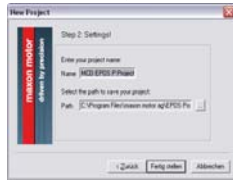

Figure 3-3 Jumpers JP2 and JP3 (maxon DC motor with integrated motor/encoder ribbon cable)
2) Set jumpers JP2 and JP3 to “closed” position (→Figure 3-3):